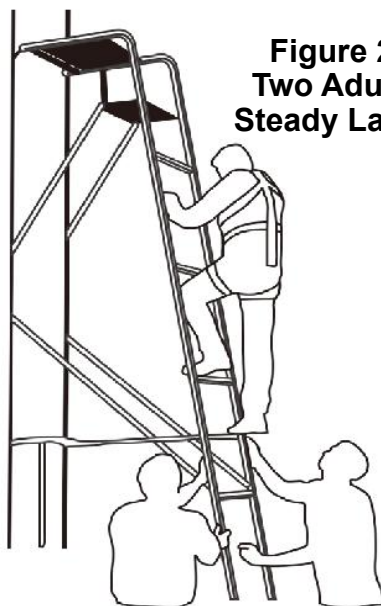

Figure 27
STEP 9a: With two (2) other adults holding the base of the ladder stand steady against tree (refer to Figure 27), climb to a height that allows you to safely attach your full-body fall arrest harness tether to the tree trunk as soon as possible.